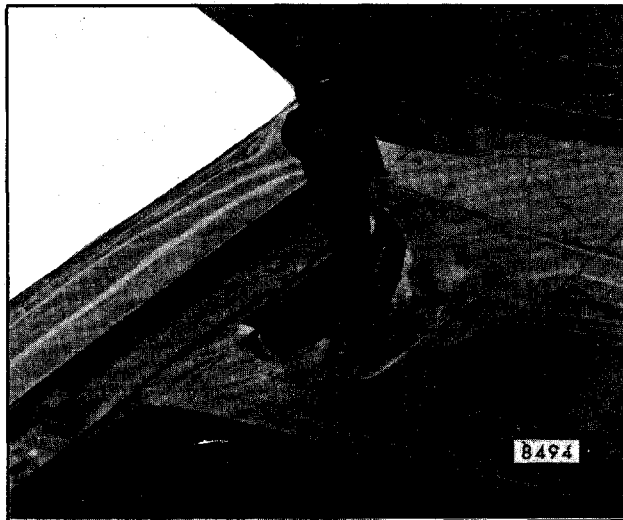

Fig. 4-24-Hood Hinge - "H-07,27"
The "H-07,27" style hood is hinged at the rear. The hood hinge is welded to the hood side and bolted to the body side (Fig. 4-24).
2. With aid of helper, remove two hinge to upper shroud attaching bolts (Fig. 4-24) and remove hood and hinge from body.